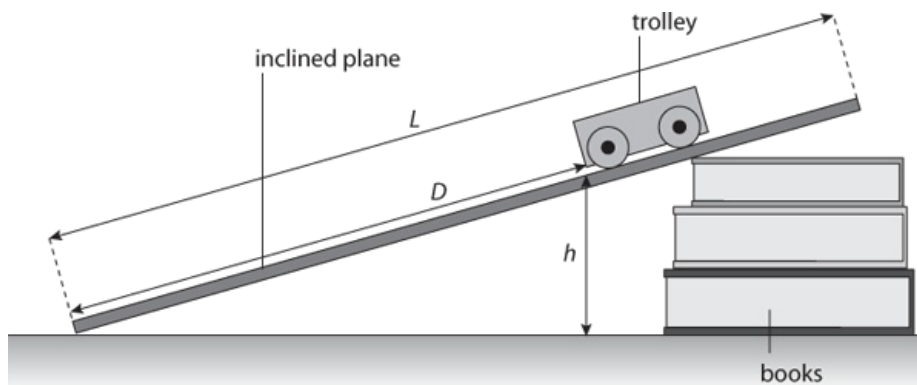

Figure 9.3: Trolley on inclined plane (supported by books).
- 1 Start by measuring the length L of the inclined plane and the distance D that the trolley is going to travel each time as shown in Figure 9.3. Record your readings in the Results section.
- 2 Measure the height h of the inclined plane at the front of the trolley as shown in Figure 9.3.